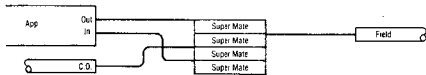

Fig. 30—Crimp loaded groups together.
1. Crimp the corresponding loaded groups together (C.O. to Field) using the 4270 Hand Presser. See Figure 30.